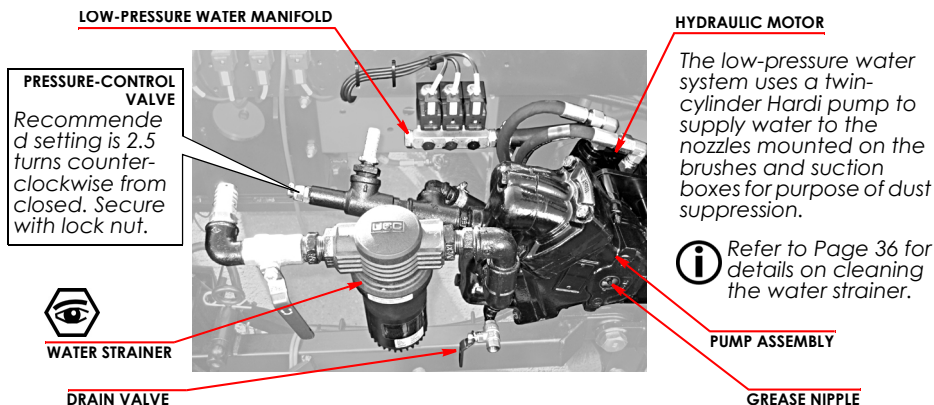

Fig. 12 Typical Low-pressure Water Pump Arrangement
2. Drain the water tank and open the drain valve (Fig. 12). Switch on all sprays and run the water pump until the system runs dry.